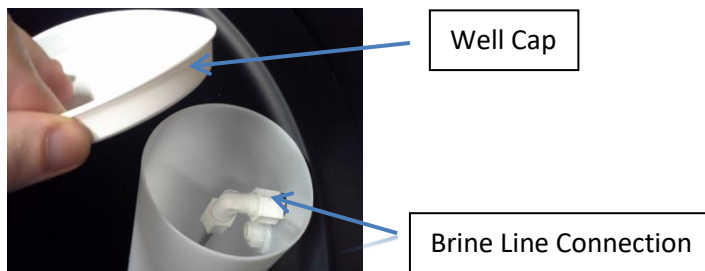

Figure 11: Brine Well Picture
- J. Tighten the control valve onto the tank to the point that it is snug. The finished tank is shown in Figure 11. Double check that the valve is in a correct position to be able to install the plumbing.